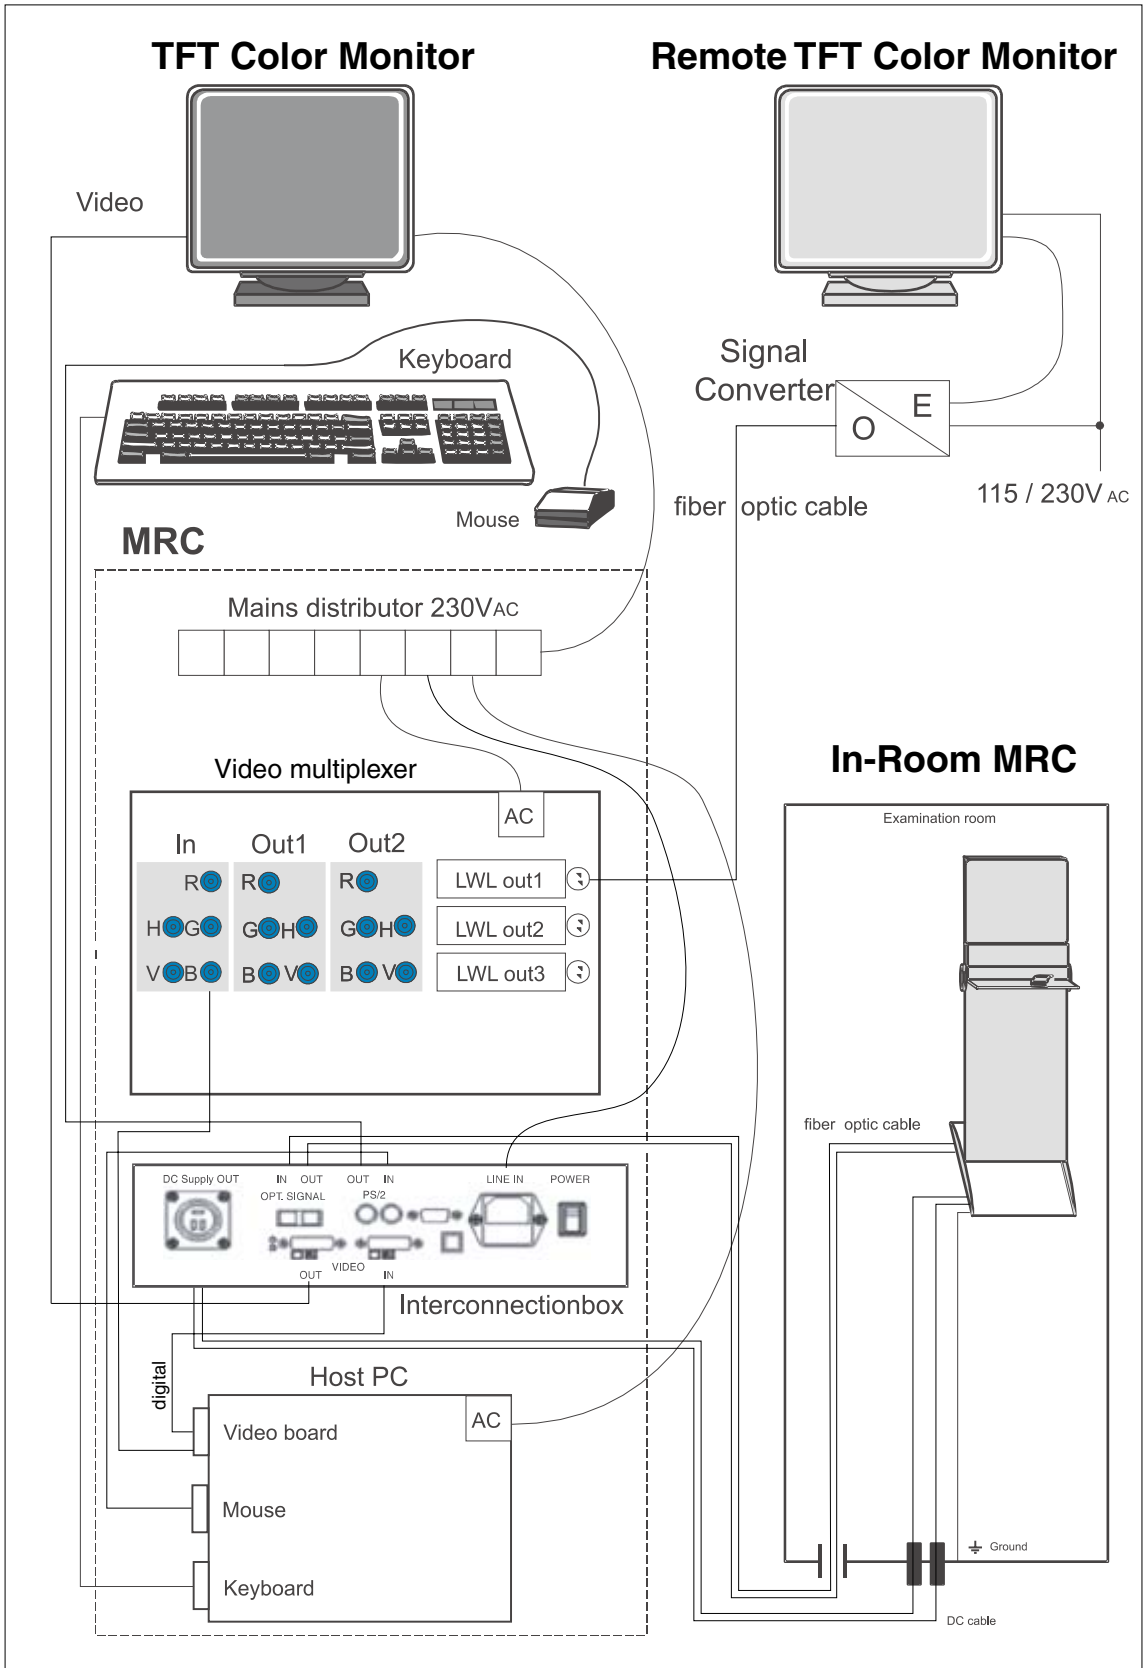

Fig. 50: Cabling for TFT remote monitor and In-room MRC monitor
- Option In-Room MRC and Remote Monitor, see \(Fig. 50 / p. 71\)